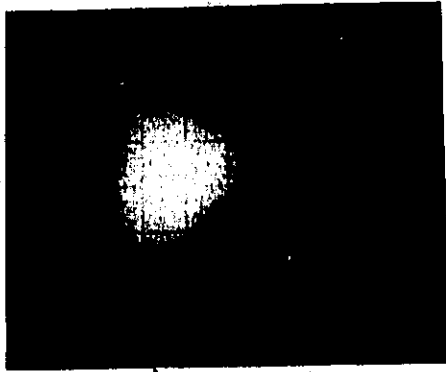

Figure 3-7. Fade positive which occurs after Pushbutton Selector is left in STD for 2 to 4 minutes.
- g. FADE POSITIVE — Appears as random green areas on a dark background in MAX. PERSISTENCE, Figure 3-7.